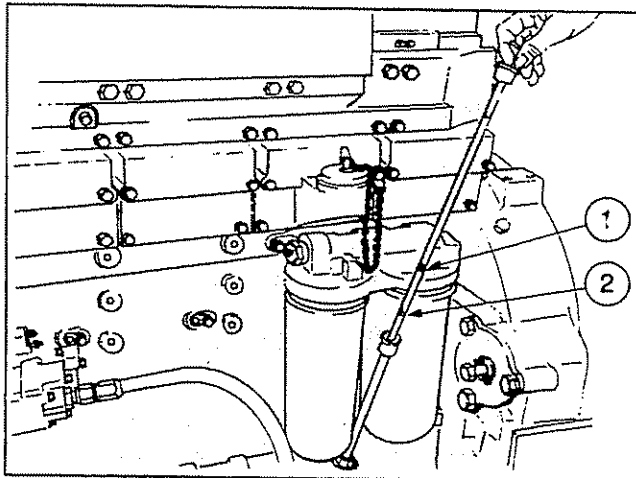

Fig. 1-8, (OM1005L). Checking engine oil level — KT/KTA19
A dipstick oil gauge is located on the side of the engine, Fig. 1-8. The dipstick has an "H" (high) (1) and "L" (low) (2) level mark to indicate lubricating oil supply. The dipstick must be kept with the oil pan, or engine, with which it was originally supplied. Cummins oil pans differ in capacity with different type installations and oil pan part numbers. Check the dipstick calibration. If in doubt, your Cummins